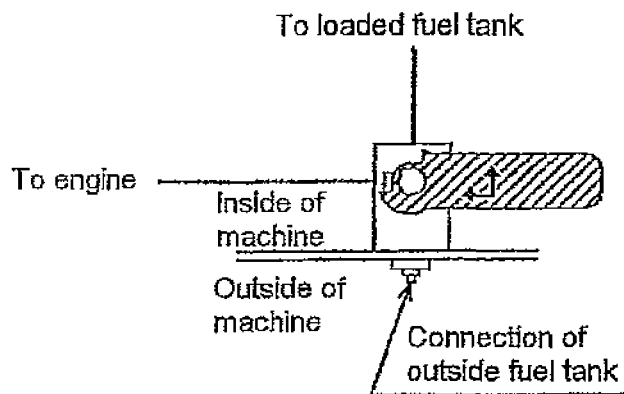

Fig.1 Use of loaded fuel tank
(2) Operating procedure
- ① The fuel piping and the change-over valve lever are set as shown in Fig.1 before the machine is shipped. If the fuel is to be supplied from the machine loaded tank, operate the machine with setting left as such.
- ③ If the outside machine tank is not used with the piping removed from it, be sure to return the change-over valve lever to the position as shown in Fig.1 and screw in the two plugs.
(3) Precaution in piping and operation
- ① For the piping, use an oil resistant pipe with an inside diameter of approximately 8 to 10 mm.
- ② Install the outside machine tank as near to the machine as possible and as the fuel level is within from 0 to +3m for the ground.
- ③ In piping the outside machine tank, leave the position of the change-over valve lever as shown in Fig.1 until the piping is complete before turning it to the position as shown in Fig.2.